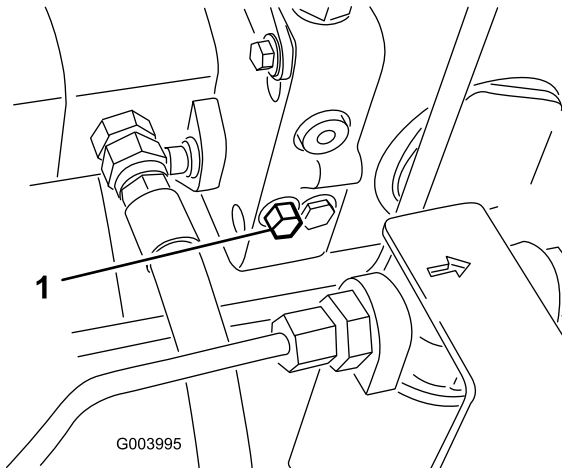

Figure 35
1. The bypass valve is located on the left side of the hydrostat (Figure 35). Rotate the bolt 1-1/2 turns to open and allow fluid to bypass internally.